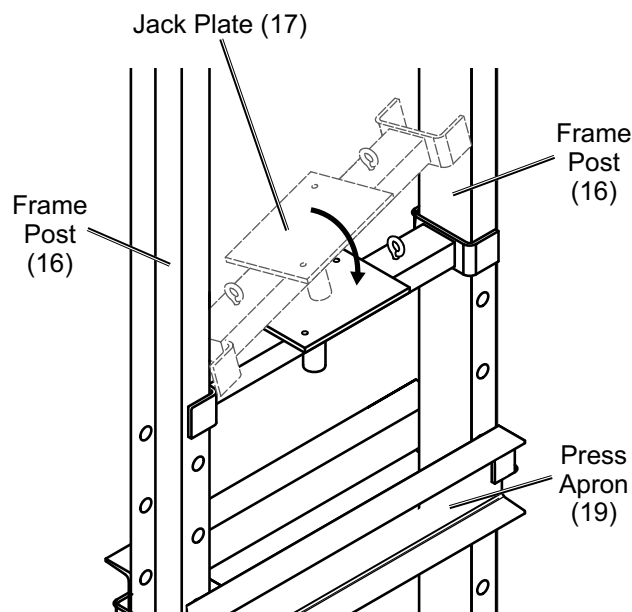

Figure 6
8. Angle the Jack Plate (17) so the rails of the Jack Plate straddle the Frame Posts (16), then lower into place by sliding it down the Frame Posts so it rests temporarily on the Press Apron. See Figure 6.